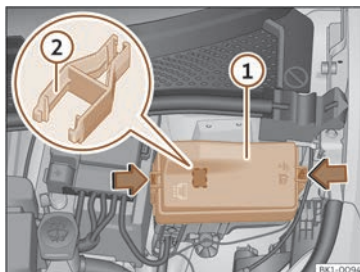

Fig. 153 In the front compartment: fuse box cover.
- Press the locking tabs to release the fuse box cover >>> **Fig. 153** .